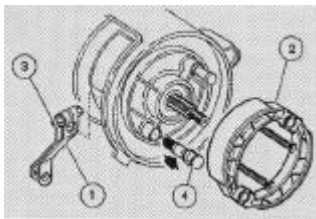

Fig. 20
## **GREASING THE REAR BRAKE OGIVE (FIG. 20)**
4. Disassemble the brake shoes (2 -FIG. 20)
5. Remove the brake lever (1 -FIG. 20) by loosening the nut (3 -FIG. 20).
6. Remove the pin (4- FIG. 20).
**WARNING: Take extreme care not to grease the pin (4) in the cam area and not to dirty any parts or areas other than those indicated with the grease as this is likely to compromise braking efficiency.**